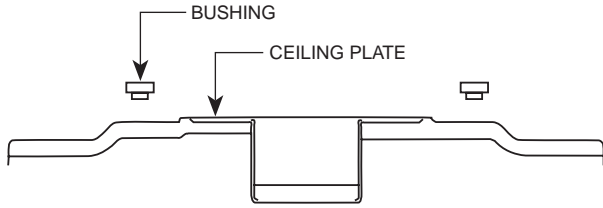

FIGURE 4
**A.** Install the (4) rubber bushings into the top of the ceiling plate by inserting small side of the bushing into the four holes in the ceiling plate. See Figures 4 and 4A.